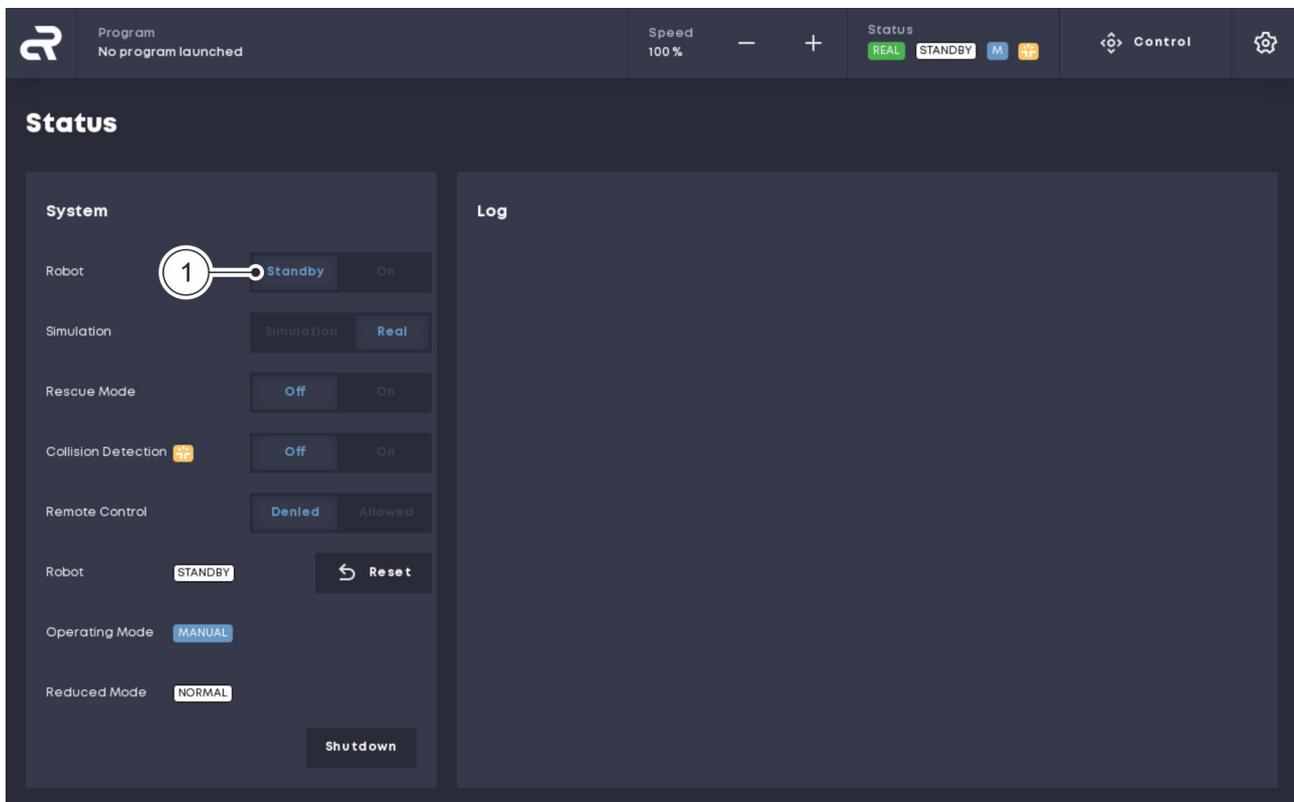

Fig. 50 Standby mode
01. In the 'Status' menu, click the 'Standby' button next to 'Robot' Fig. 50/①.